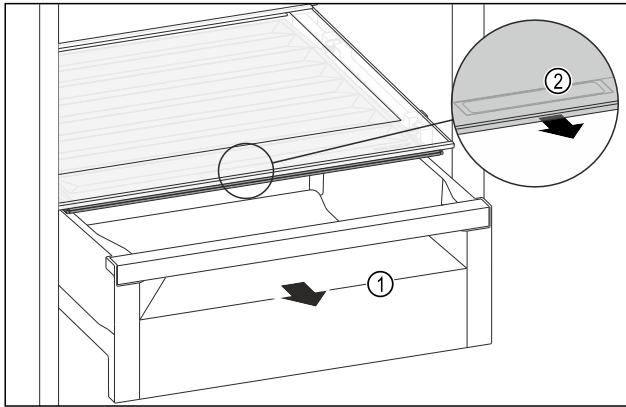

Fig. 140
- ▶ Pull out the drawer Fig. 140 (1).
- ▶ Grasp the recessed grip Fig. 140 (2) on the compartment lid and pull the compartment lid forwards at the same time.